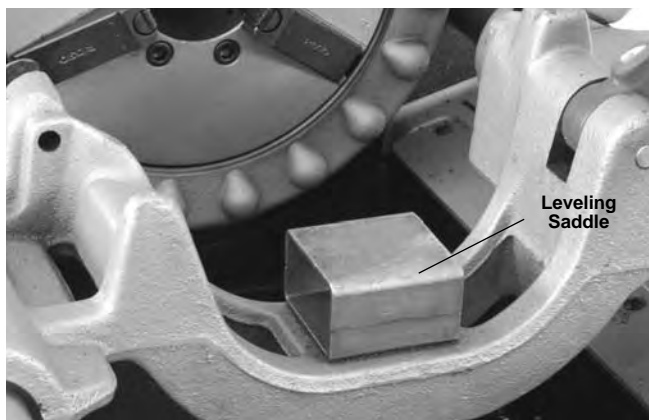

Figure 16 – Saddle on 535 Carriage
- If using a 535M with the high clearance carriage, place the leveling saddle on the carriage as shown in Figure 16.
1. Place the leveling saddle on the carriage as shown in *Figure 16*.